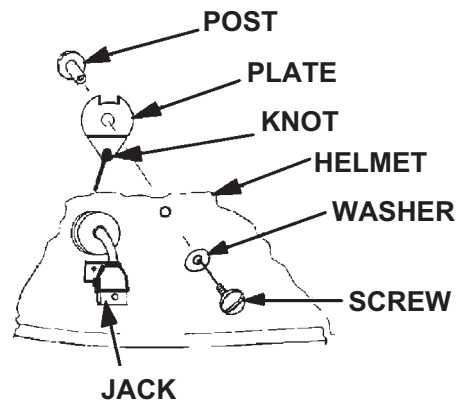

Figure 4-16. Communications Cord Strain Relief Plate and Screw
8. Referring to Figure 4-16, remove the screw, washer, and post attaching the communications cord strain relief plate to the helmet shell.